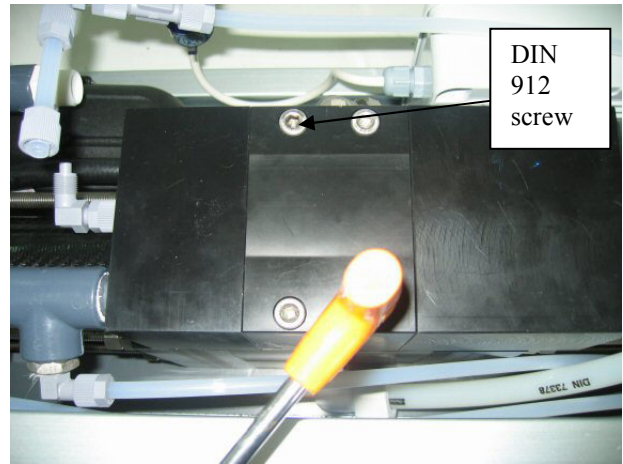

Fig. 8 – Top ERS view
- 9) Unscrew the 4 DIN 912 screws M8x80 and pick-up the top part of the ERS (main valve) (Fig.8);
- 9) Put the top ERS part on the bottom part correctly, and connect them using the 4 DIN 912 screws (Fig. 8);